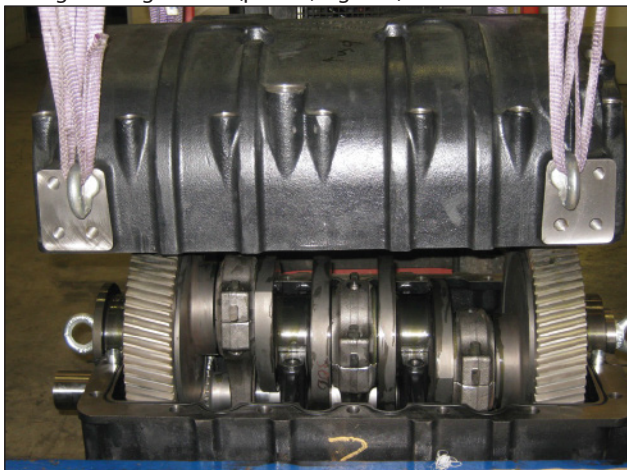
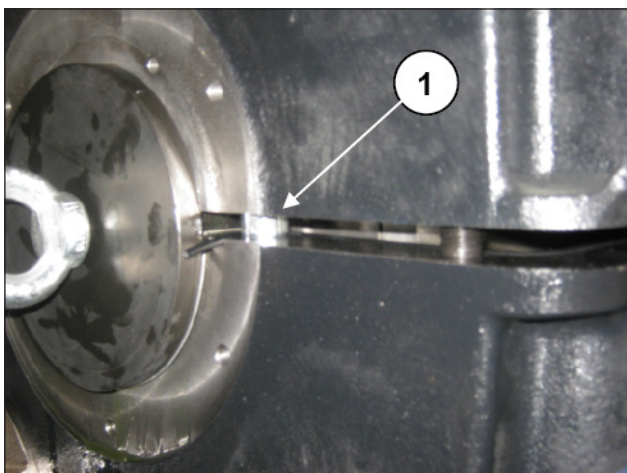

Fig. 110
Fig. 111
Fit the rear casing (Fig. 110) checking alignment on the front casing locating bushes (pos. ①, Fig. 110).
Fix the rear casing by means of the 22 M16 screws (pos. ①, Fig. 110) as shown in the diagram in Fig. 111. Tighten the screws with a torque wrench as described in heading 3.